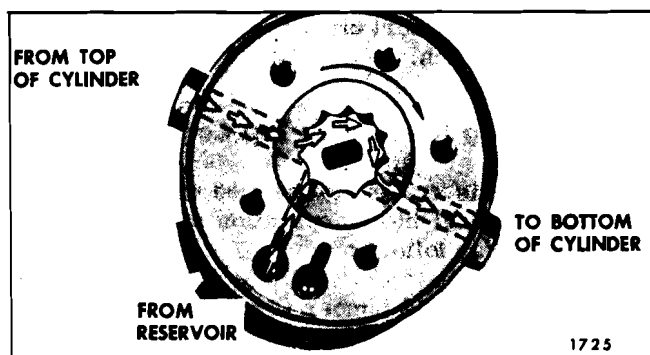

Fig. 13-61—Operation of Pump to Raise Top
1. Raising the Top. When the red motor lead is energized the motor drive shaft turns the rotors clockwise as indicated by the large arrow in Figure 13-61. The action of the pump rotors forces the fluid under pressure to the bottom of each cylinder forcing the piston upward. This action causes the fluid above the piston in each cylinder to be forced into the pump, which recirculates the fluid to the bottom of the cylinders. The additional fluid required to fill the cylinder due to piston rod displacement is drawn from the reservoir.